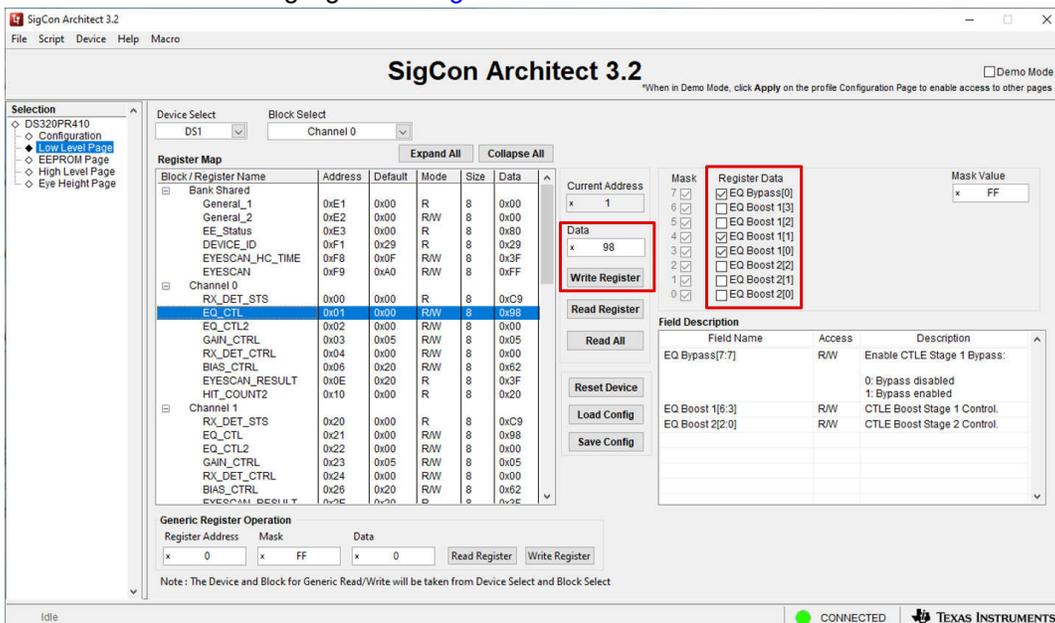

Figure 3-4. Low Level Page: Data Field and Write Register Button
- To write to the selected register, select or deselect the boxes in the *Register Data* fields or manually enter a hex value into the *Data* field. Then, click the *Write Register* button to write the specified data into the highlighted device register. To verify the change was made, click the *Read Register* button. Note the *Field Description* table describes the function of each bit in the highlighted register. This field and associated buttons or check buttons are highlighted in Figure 3-4.